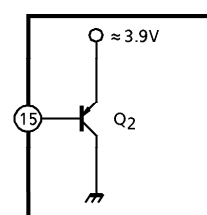

Fig.3
Pin ⑮ is coupled to the base of Q₂ (PNP-Tr) as shown in Fig.3.